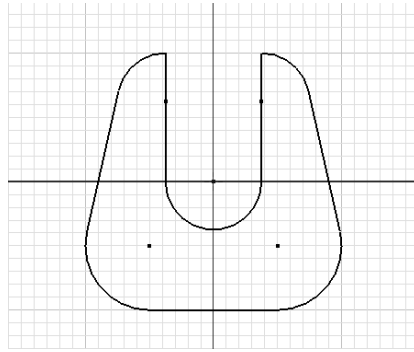

Figure 3-56 The sketch after applying all constraints
10. Select the center point of arc 6; the entire sketch moves to make the origin coincident with the center point of the arc. The sketch after applying all constraints is shown in Figure 3-56.